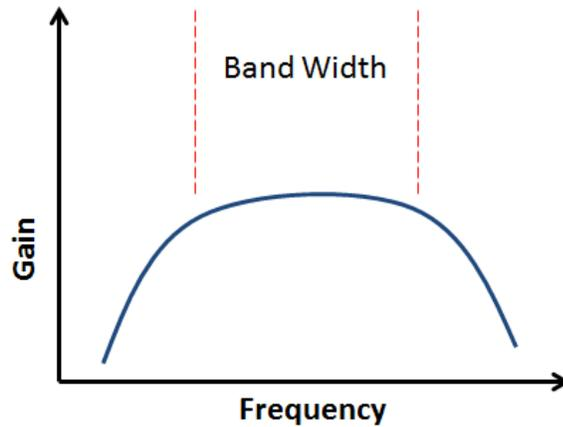

Figure 2. Plot a graph between Voltage Gain vs Frequency
8. Note down the observation in table no. 1 and plot a graph between Voltage Gain vs Frequency as shown in Figure 2.